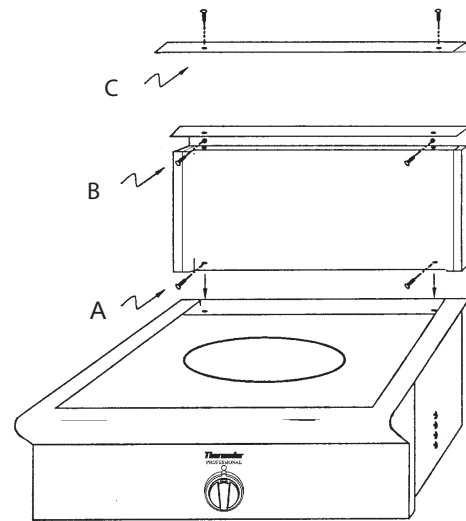

Figure 12: Low Back Attachment
- 1. Slide backguard over the two flanges on the rear of the appliance. Fasten the front and back with the two screws (see A, Figure 12) provided.
- 2. Fasten the top of the backguard to the wall with two screws through the backguard. (See B, Figure 12.)
- 3. Place the backguard cap on top and fasten using the two counter-sink screws provided. (See C, Figure 12.)